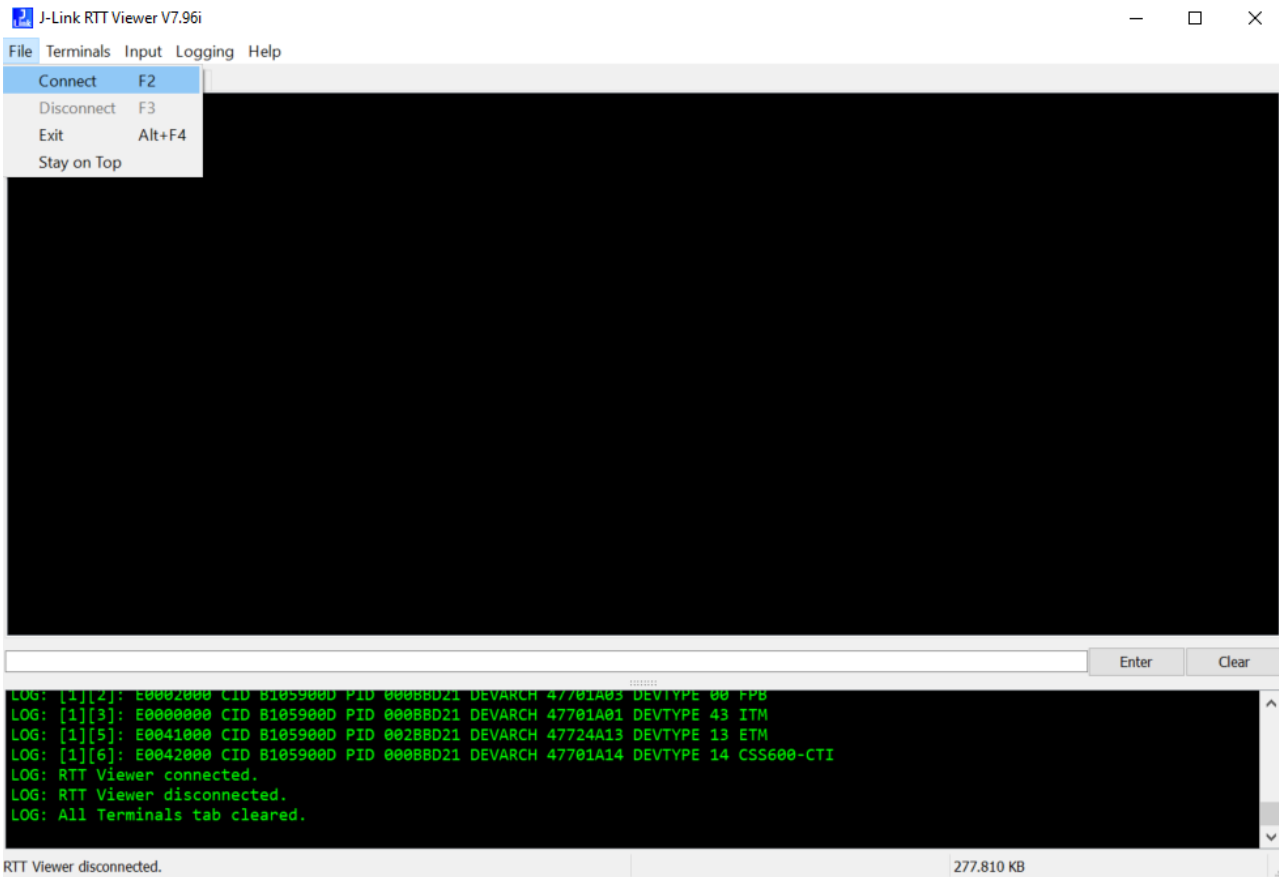

Figure 10. RTT Viewer
- Open the J-Link RTT Viewer (see Figure 10).